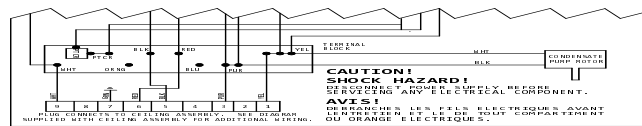

FIGURE 2
13. The pump wires must be routed to the unit wirebox, through the strain relief and attached to the terminal strip. Inside the wirebox cover is a wiring diagram (See Figure 2) which shows the attachment points.